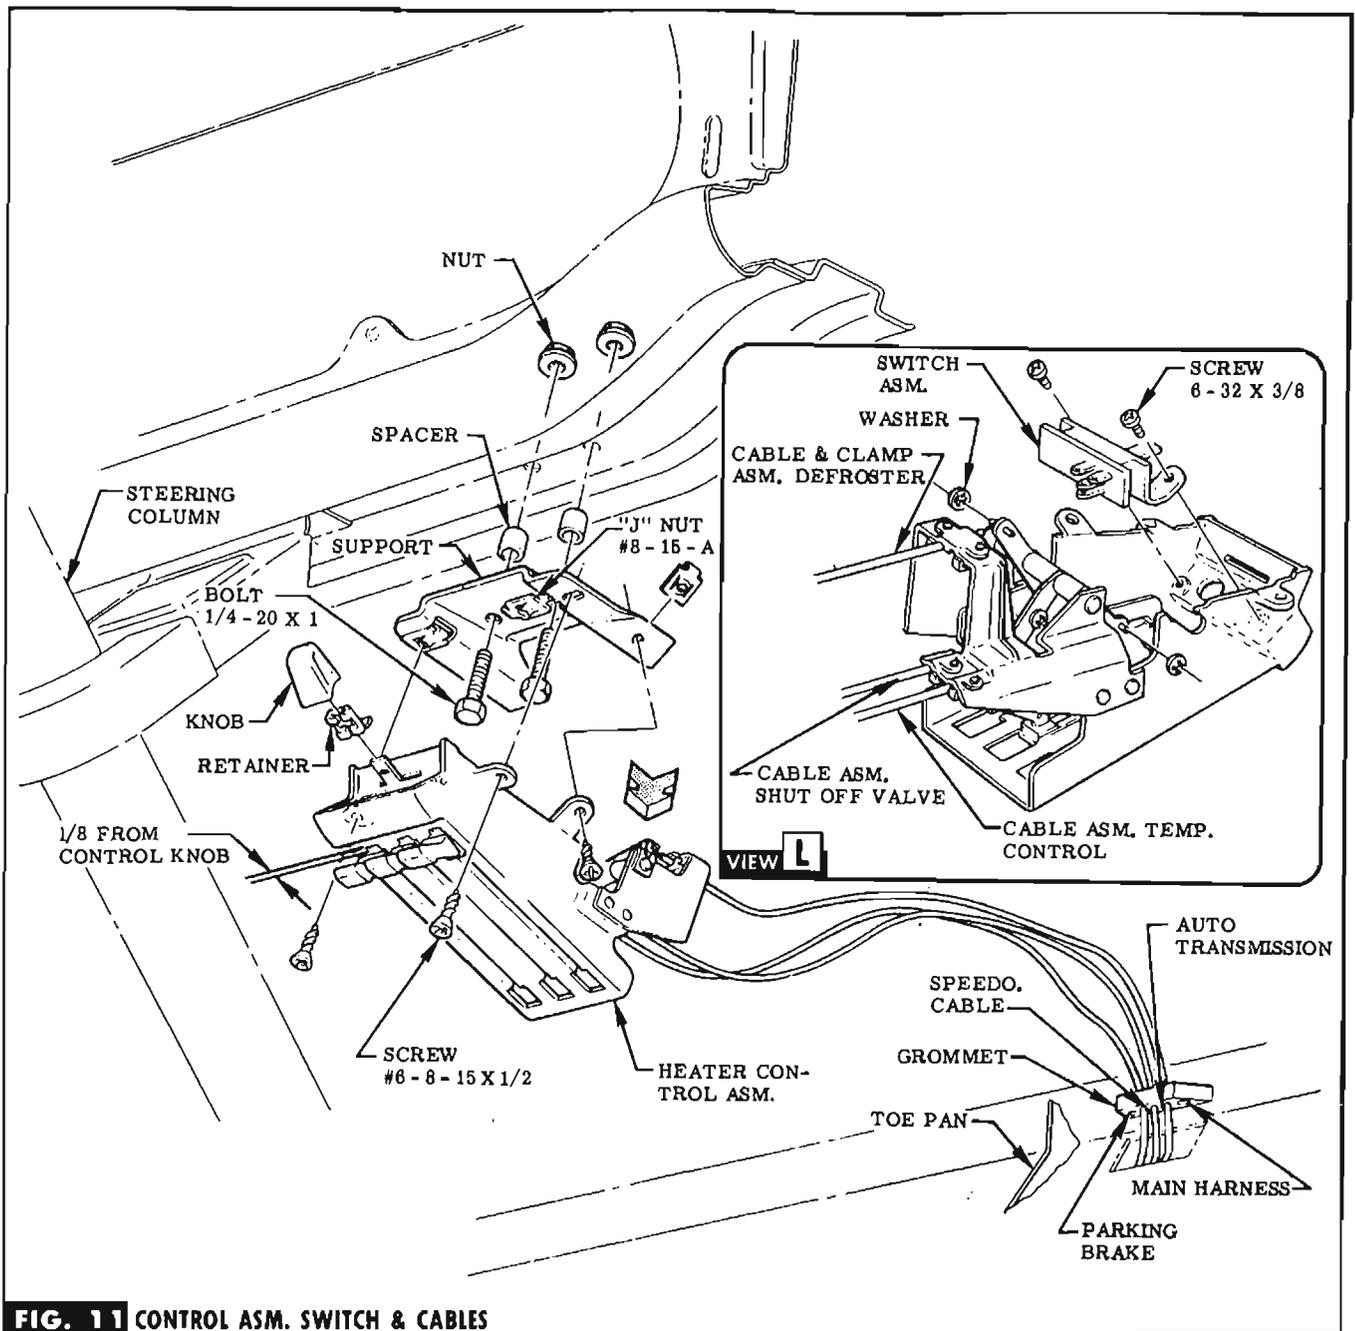

FIG. 11 CONTROL ASM. SWITCH & CABLES
STEP 43 MOVE AIR, HEAT & DEFROSTER KNOBS DOWN SO THAT LEVERS ARE 1/8 INCH FROM TOP OF SLOT. THE CONTROL LEVERS ARE TO BE POSITIONED AS SHOWN WHEN MAKING THE ATTACHMENT OF EACH END OF THE CONTROL CABLES. AFTER THE UNIT IS COMPLETELY INSTALLED IN THE VEHICLE & ALL LEVERS ARE SET IN THE "OFF" OR "UP" POSITION, THE FRICTION IN THE CONTROL & CABLES IS SUFFICIENT TO HOLD THE LEVERS TO WITHIN 1/8 OF THE TOP OF THE SLOT IN THE CONTROL FACE PLATE. SEE FIG. 11.
STEP 45 INSTALL KNOB (IN BAG A) ON SWITCH LEVER WITH RETAINER PROVIDED (IN BAG A). SEE FIG. 11.
STEP 46 INSTALL HEATER CONTROL SUPPORT TO INSTRUMENT PANEL WITH BOLTS, SPACERS & NUTS PROVIDED (IN BAG A). SEE FIG. 11.
STEP 47 SLIP J-NUTS (IN BAG A) IN PLACE ON SUPPORT & INSTALL HEATER CONTROL TO SUPPORT WITH SCREWS PROVIDED (IN BAG A). SEE FIG. 11.
STEP 48 ROUTE CABLES THRU HOLES IN GROMMET & TOE PANEL & PRESS GROMMET (IN BAG A) INTO POSITION. SEE FIG. 11.